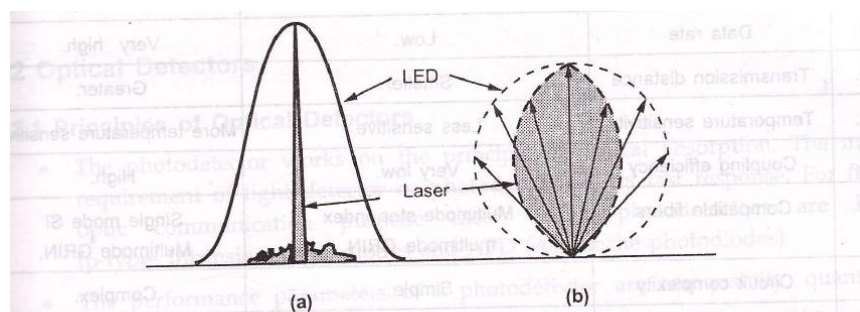

Fig. 3.1.14 Comparing (a) spectral and (b) spatial distribution of laser diodes
- At low current laser diode acts like normal LED above threshold current, stimulated emission i.e. narrowing of light ray to a few spectral lines instead of broad spectral distribution, exist. This enables the laser to easily couple to single mode fiber and reduces the amount of uncoupled light (i.e. spatial radiation distribution). Fig. 3.1.14 shows spectral and spatial distribution difference between two diodes.